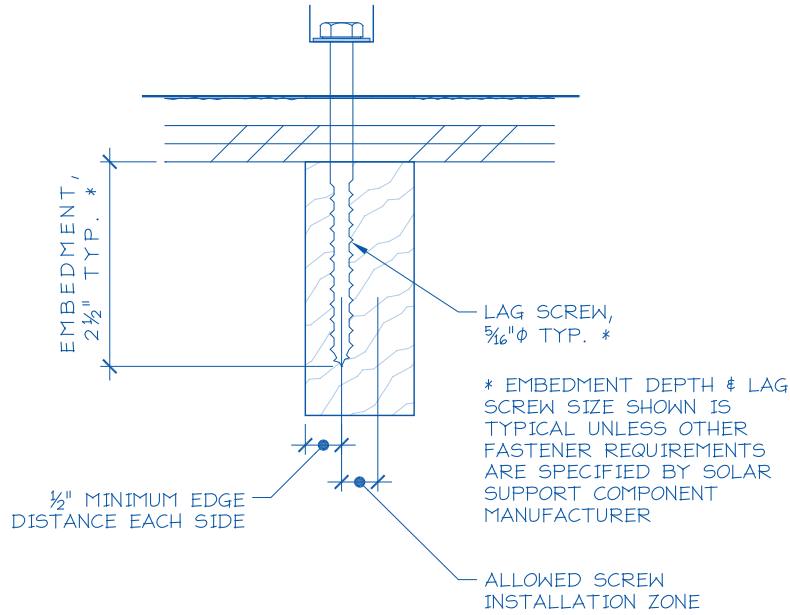

Figure 3. Typical Anchor with Lag Screw Attachment.
- 1) Anchor fastener data (see Figure 3):
- A. All items above are checked (Y) YES. No additional calculations are required.
B. One or more items are checked (N) NO. Attach project-specific drawings and calculations stamped and signed by a California-licensed Civil or Structural Engineer.